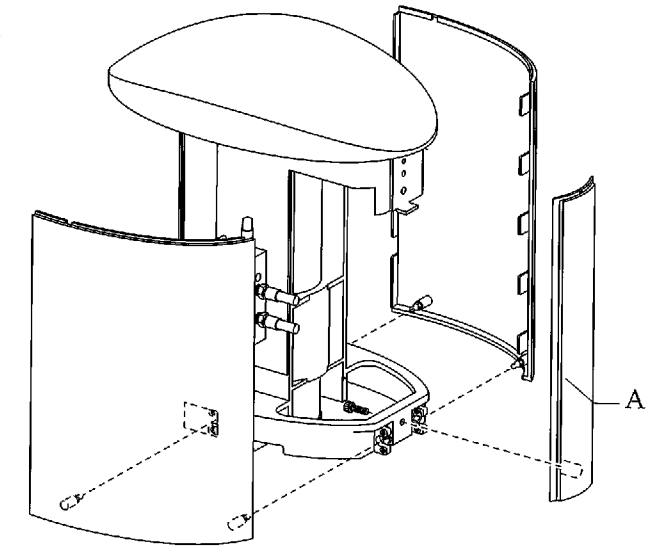

Figure 58. Removing the support center covers. (A) nose cover
- Unscrew the support center nose cover, remove the covers, and set the screw aside (see Figure 58).